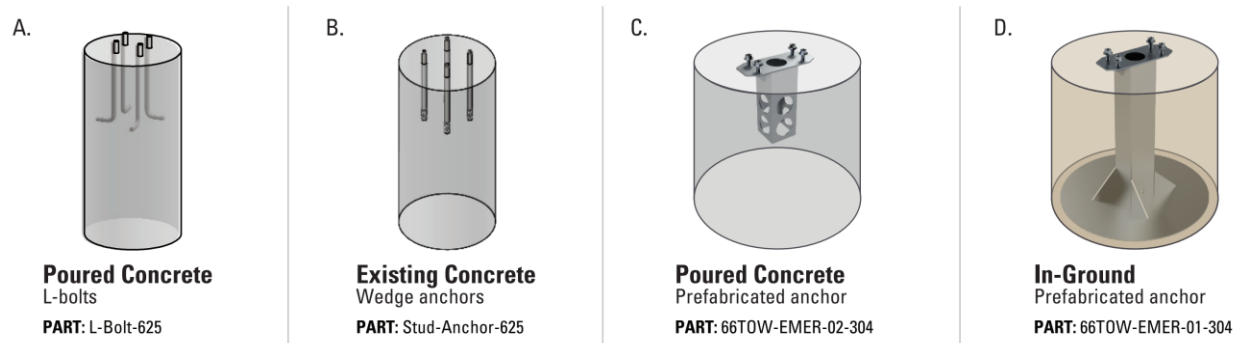

Figure 3 Fast Foundation options for mounting the tower BLH.
- Implement a Fast Foundation option (see Figure 3).